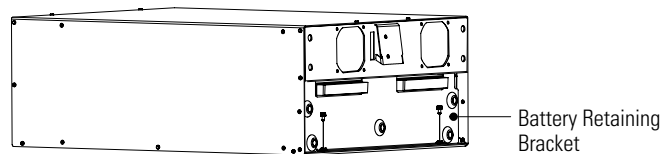

Figure 3. Securing the Battery Trays
3. Secure the battery trays to the chassis with the battery retaining bracket and screws provided in the accessory kit (see Figure 3).